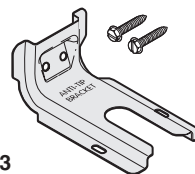
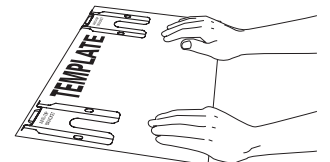

Fig. 13
Fig. 12
- Anti-Tip Template (Fig. 12), Anti-Tip bracket, 2 mounting screws (bracket and screws are supplied with range - Fig. 13) and masking tape (Fig. 14).